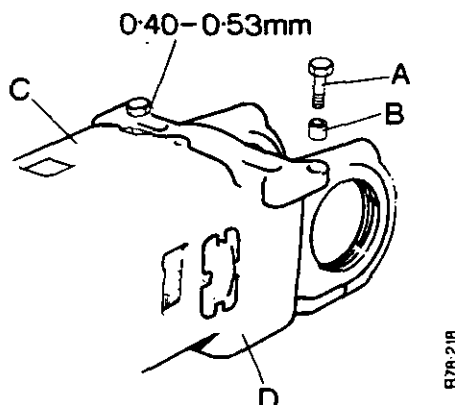

FIGURE 28 GEARBOX MOUNTING
4. Install the two bushes (part number K920656) into the mounting bolt holes at the rear of the range gearbox. See figure 28.